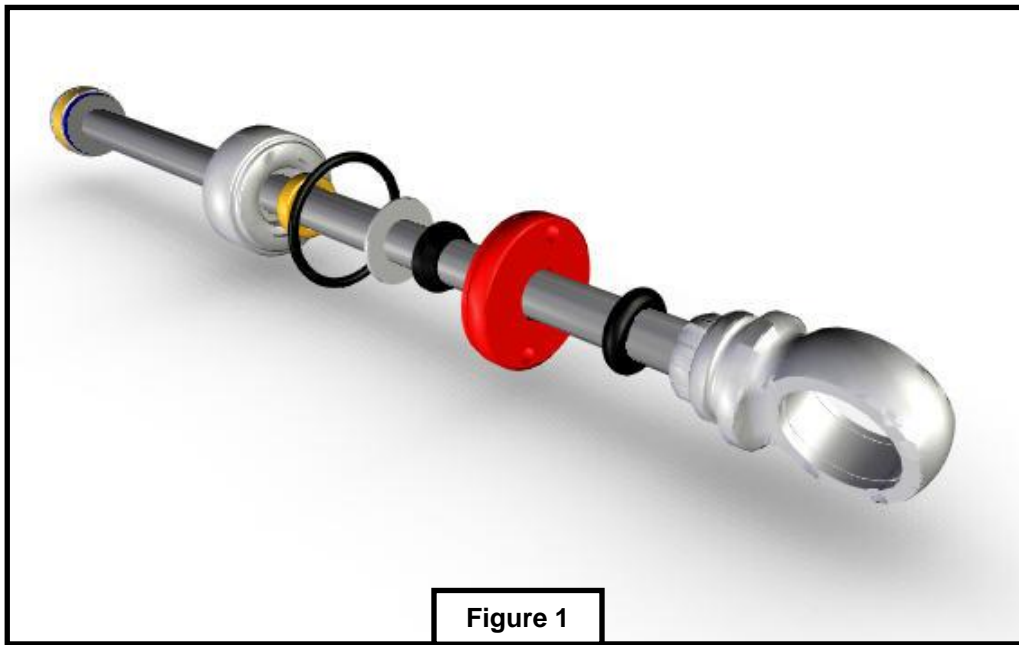

Figure 1
2. Reassemble shaft with travel indicator, closure nut, piston rod wiper, seal retaining washer, gland o-ring, piston rod seal, and gland assembly. (See figure 1)